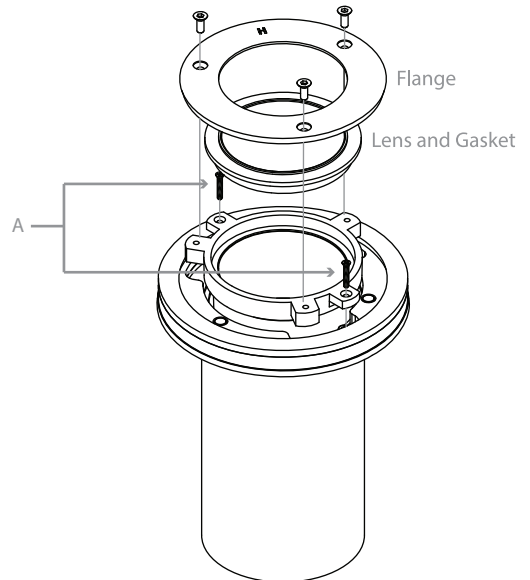

Fig. 4
Tighten the two screws (A) provided that hold the luminaire into the canister by hand only – no power tools should be used on this luminaire. (See Fig. 4).